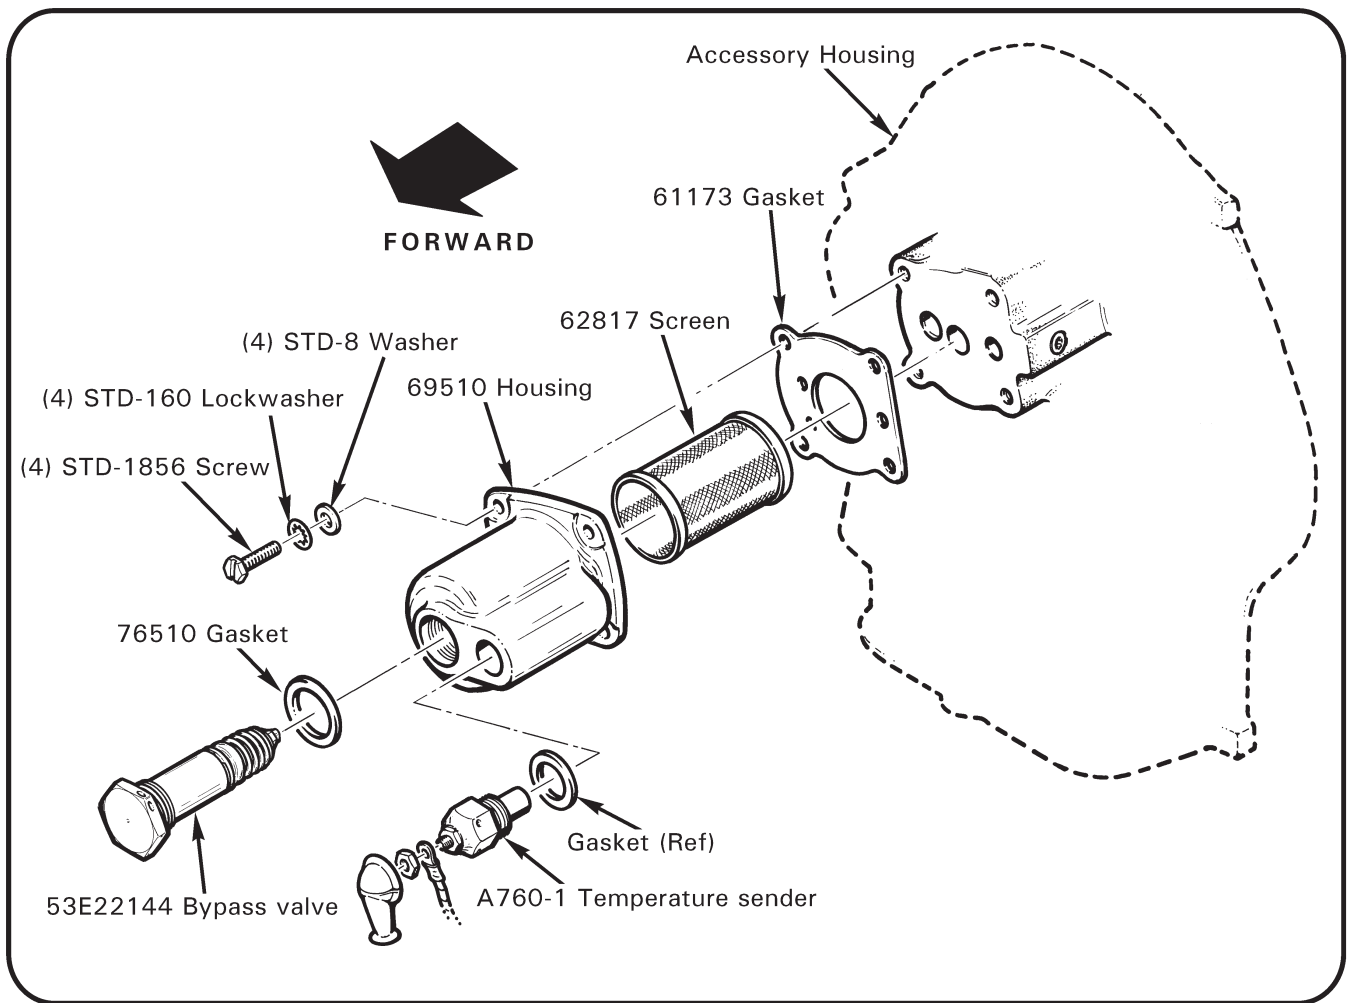

FIGURE 1 Removal
2. Refer to Figure 1. Remove wire terminal from A760-1 oil temperature sender; retain nut. Remove sender and gasket. Cut and discard safety wire securing 53E22144 bypass valve; remove valve and 76510 gasket. Discard gaskets.